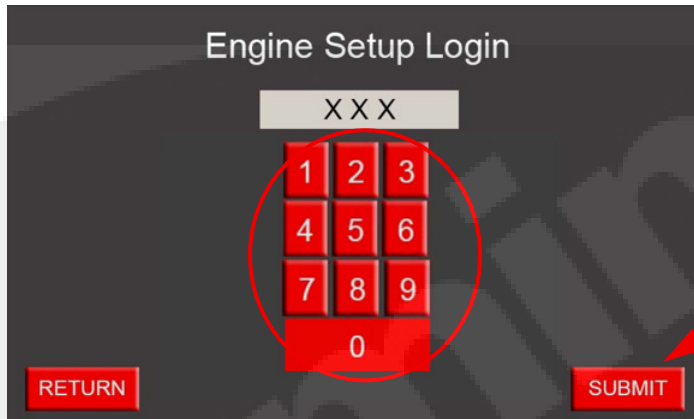

Figure 4-8 Typical Engine Setup Login screen
3. As shown in Figure 4-8, press the soft number keys to enter password "806" in the Engine Setup Login screen.
3. As shown in Figure 4-8, press the soft number keys to enter password “806” in the Engine Setup Login screen.